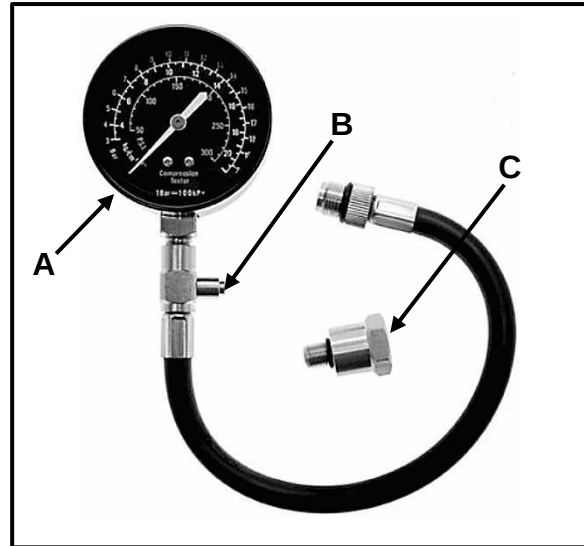

FIGURE 5.1
- 5.1 FIGURE 5.1 below shows a compression tester. Answer the questions that follow.